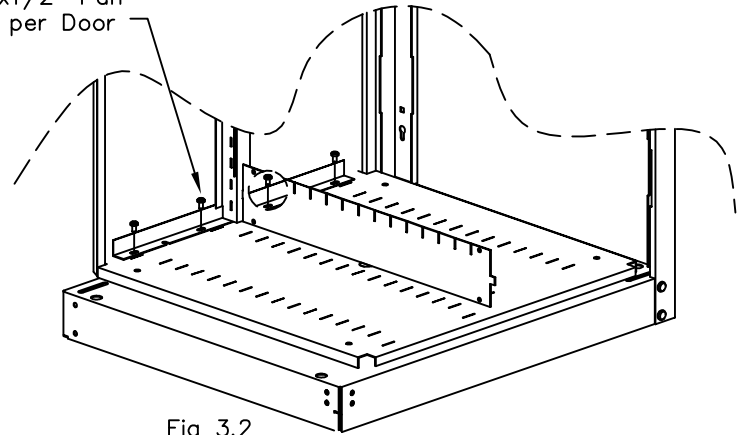

Fig 3.2
Secure doors to the bottom swivel pan using (4) 1/4-20x1/2" Pan Head Screws per door. (Fig. 3.2). Do not fully tighten screws.
(4) 1/4-20x1/2" Pan Head Screw per Door